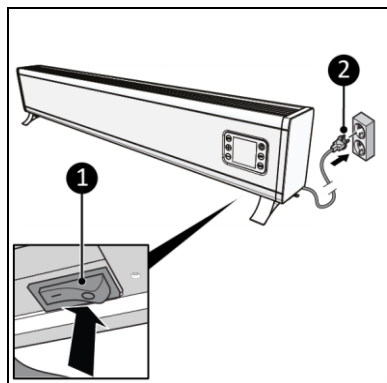

Figure 13
2. Make sure the ON/OFF switch is in the OFF position (Figure 13, pos. 1).
3. Place the power plug (Figure 13, pos. 2) into an earthed wall socket that is easily accessible. Use an earthed wall socket with a minimum power of 1000-1500-200-2500 Watt.